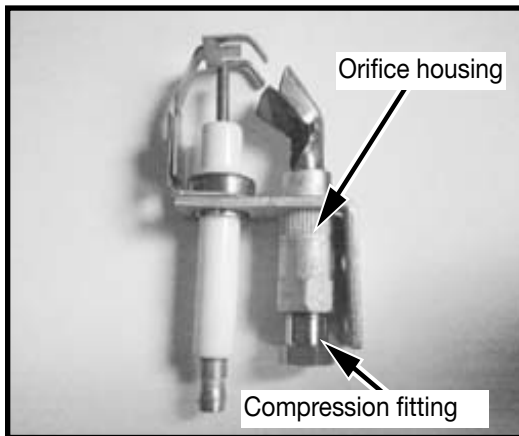

Figure 1: Removing NG orifice.
1. Remove the compression fitting from the bottom of the orifice housing and gently tap the pilot in your hand. The natural gas orifice should fall out (Figure 1).